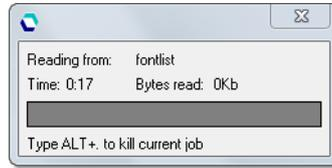

Figure 3.4 Read Dial
- * At least one progress dial window also appears and shows what is happening. For example, the Read Dial shows how much of the job the RIP has read and disappears when the RIP has processed the complete job. With a small job like this proof and a fast computer, the Read Dial may not appear; Figure 3.4 shows the dial. Other dials can appear, depending on the size of the job and the settings in your copy of the RIP.